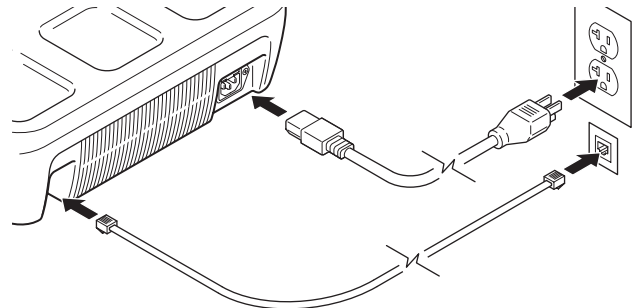

Figure 2 – Charger connections
B	Ethernet Port – Used to export device usage data from the charger to Stryker via Stryker’s Cloud; see Figure 2.
- Use the power cord to connect the battery charger to a hospital-grade, facility power receptacle (Figure 2).